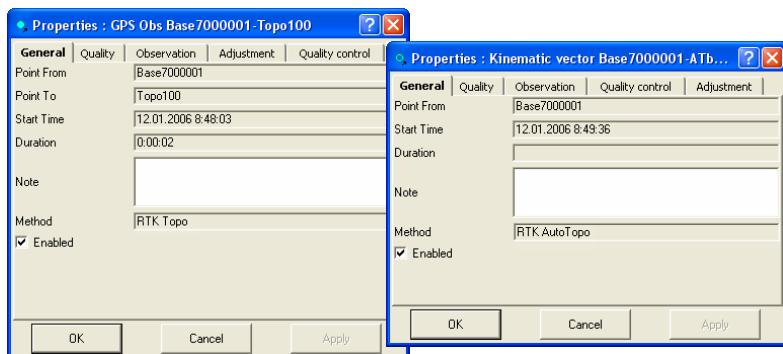

Figure 5-106. General Properties
2. View or edit *General* tab fields (Figure 5-106); available fields differ depending on the type of observation selected.